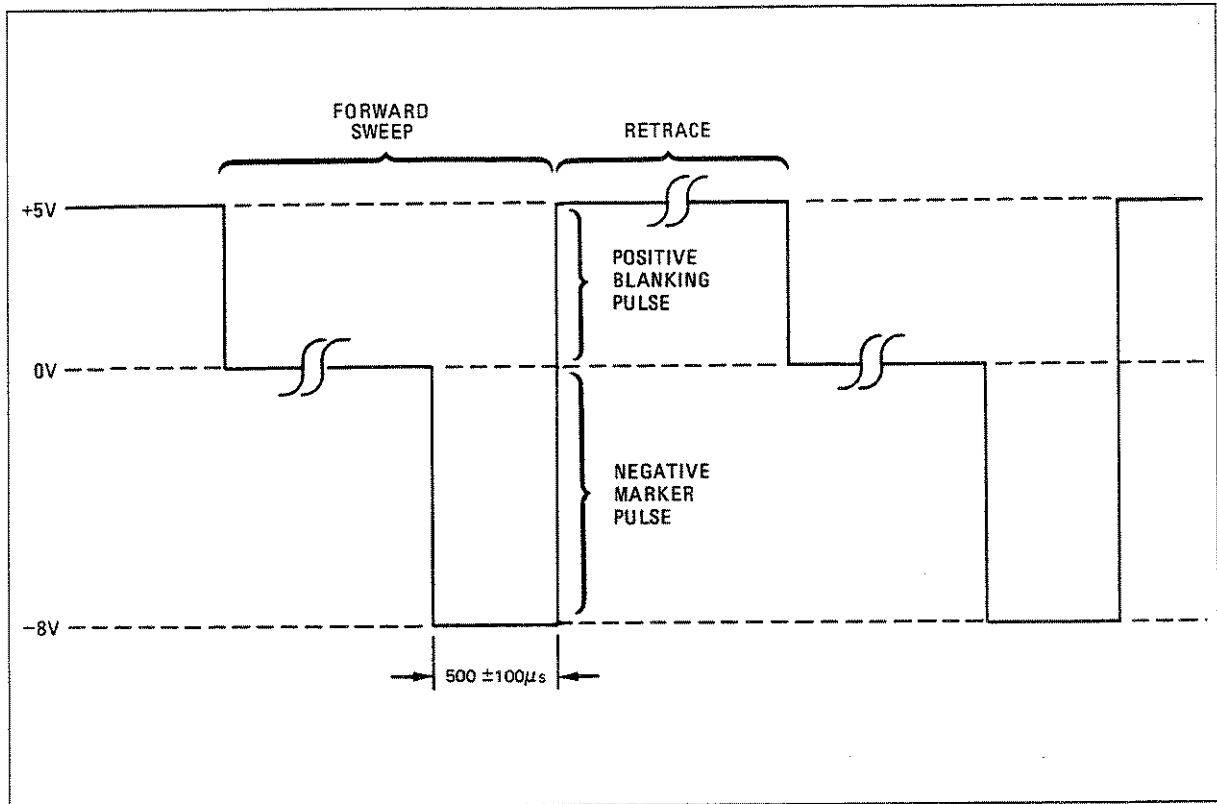

Figure 5-17. Marker DAC Adjustment Waveform
- Adjust A4R28 so the pulse width is $500 \pm 100 \mu\text{s}$ (5 divisions \pm 1 division on oscilloscope). Refer to Figure 5-17.